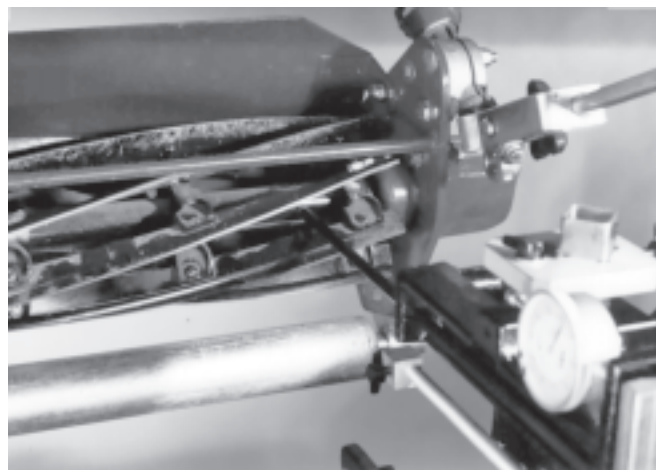

FIG. 45
- A. Move set up gauge on the right hand side of reel approximately 1" from the end. See FIG. 45.